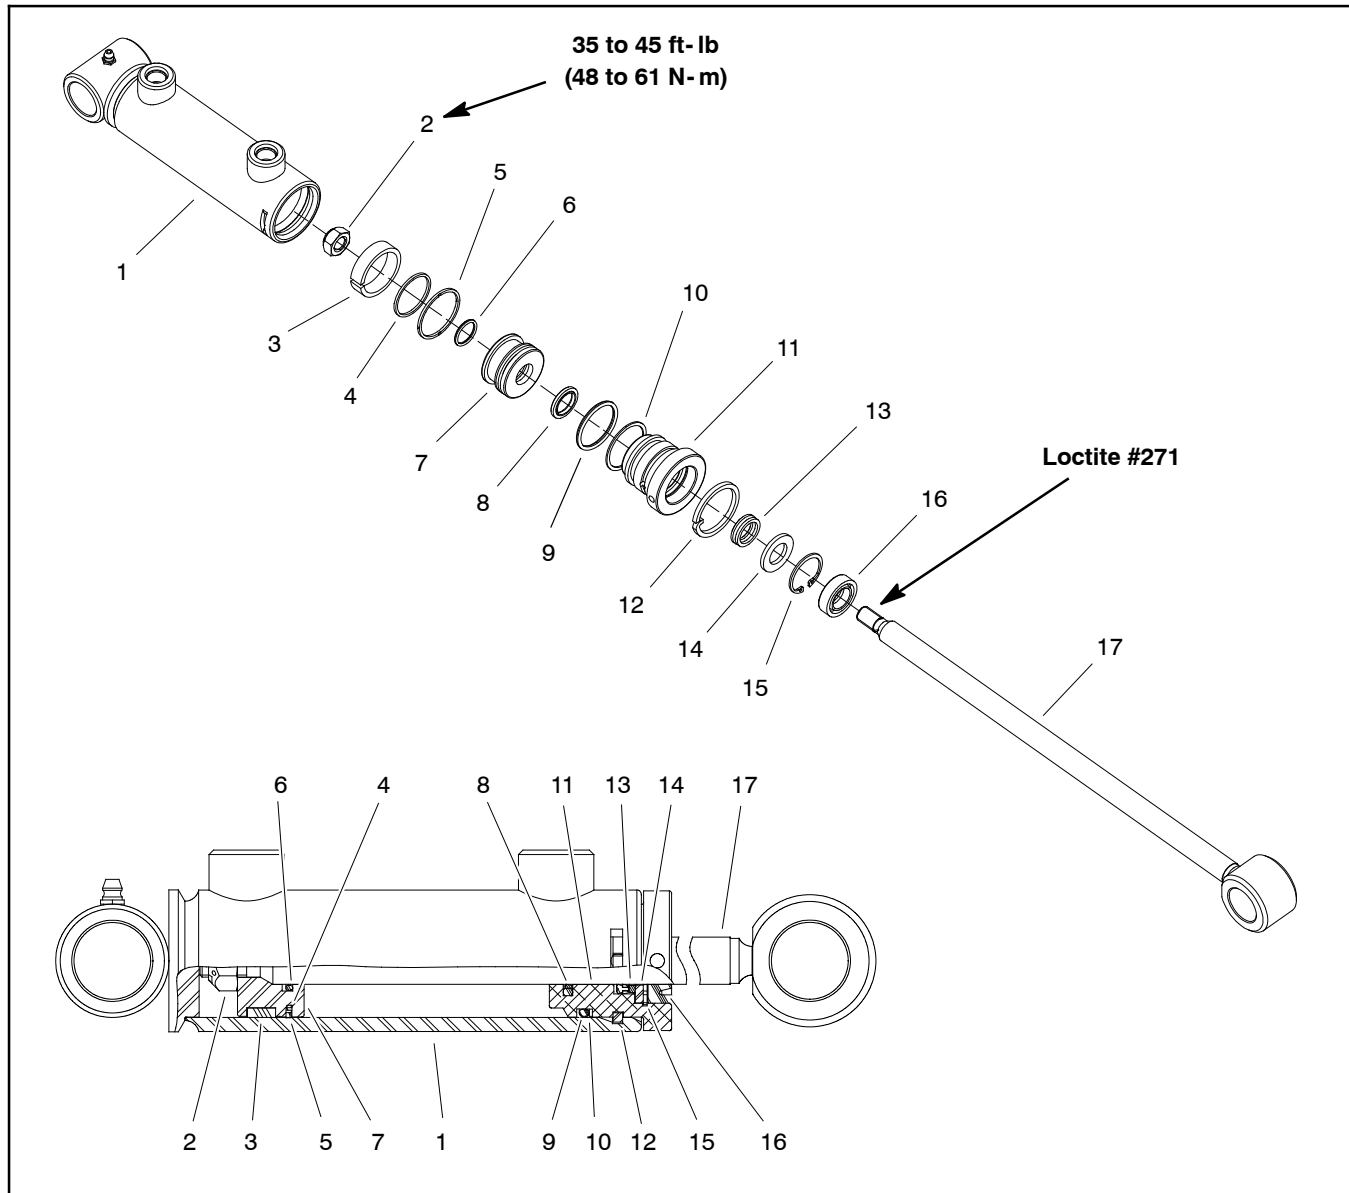

Figure 97
**Disassembly (Fig. 97)**
3. Carefully remove wiper (item 16) from the barrel taking care to not damage barrel. Slide wiper toward rod clevis.
4. Remove retaining ring (item 15) from barrel. Slide retaining ring and support washer (item 14) toward rod clevis.
A. Use a spanner wrench to rotate head clockwise until the edge of the retaining ring (item 12) appears in the barrel opening.
**Assembly (Fig. 97)**
B. Carefully slide wiper (item 16), retaining ring (item 15), support washer (item 14), head assembly and piston assembly onto the rod.